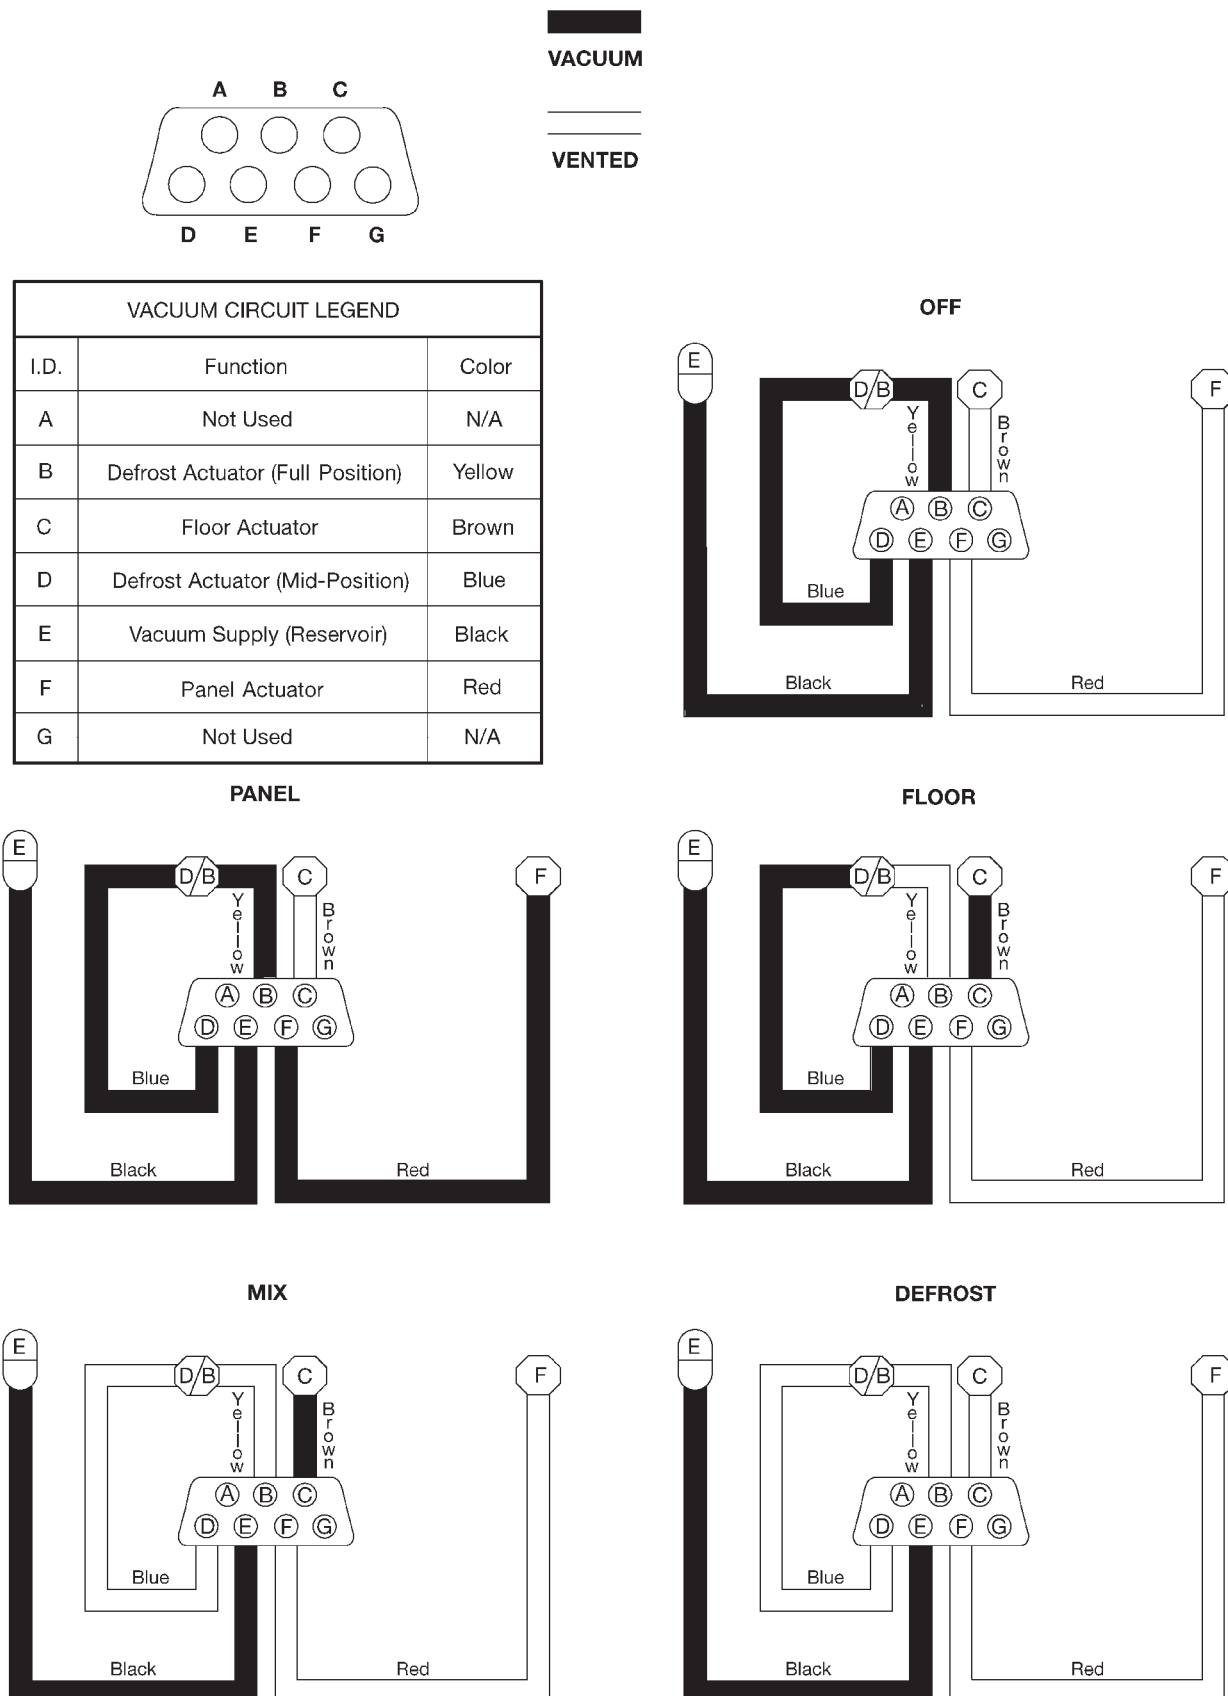
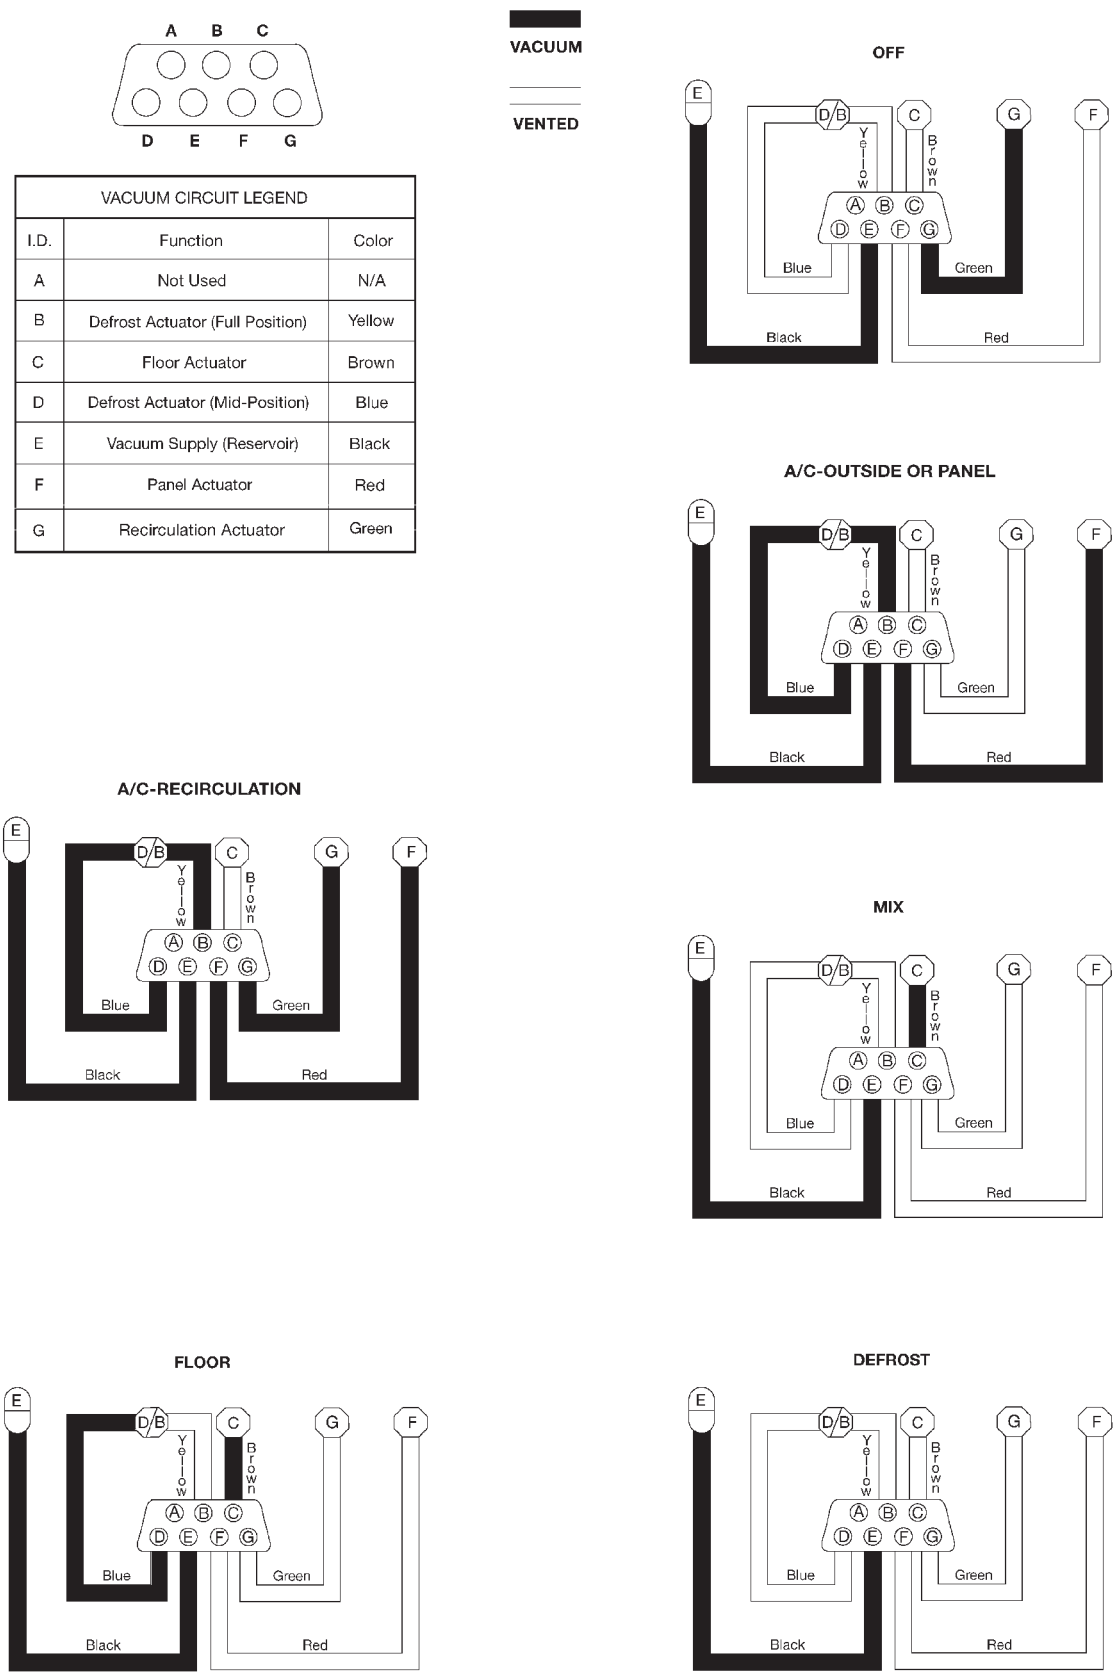

Fig. 10 Vacuum Circuits - Heater Only
Fig. 11 Vacuum Circuits - Heater-A/C
(3) Determine the vacuum line color of the vacuum circuit that is leaking. To determine the vacuum line colors, refer to the Vacuum Circuits chart (Fig. 10) or (Fig. 11).